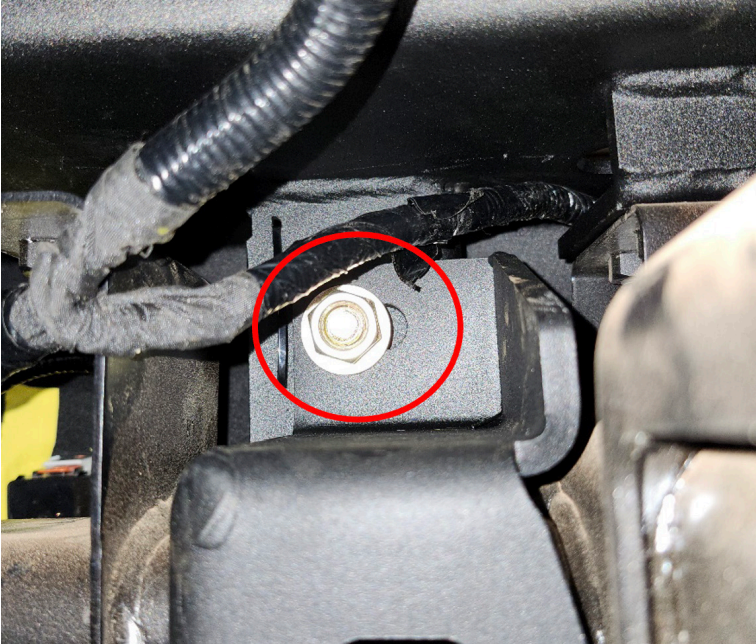

Figure 25
26. Insert 1 ½" bolt with washer (50494-HW) through top hole top hole in bumper bracket and intermediate bracket. Thread on ½" nut with washer onto bolt. (Figure 25) Repeat for opposite side.